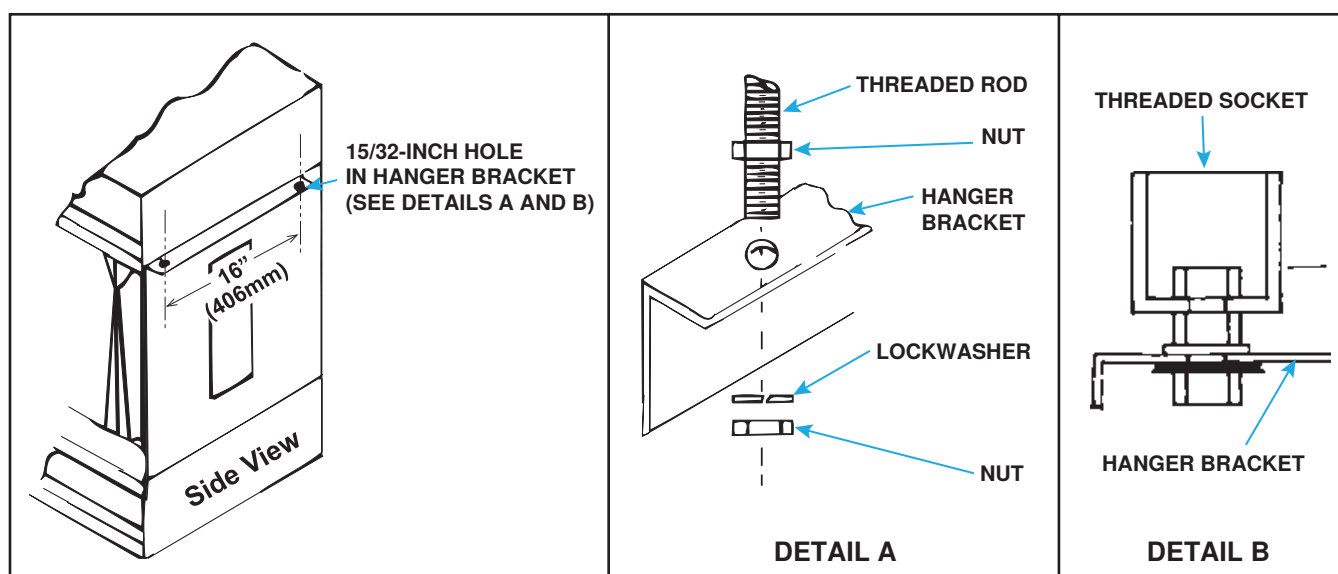

Figure 9. Suspension-Mounting of Single Furnace
- The furnace is provided with four 15/32-inch (12 mm) diameter holes for mounting using four-point suspension as shown in Figure 9.
- The hardware required is shown in Figure 9, DETAIL A and includes four 7/16-16 threaded rods, four split ring lockwashers, and eight 7-16 nuts.
- A hanger adapter kit (option CK3, PN 57959) with four free-turning threaded sockets (PN 9557) for 1-inch pipe (see Figure 9, DETAIL B) is available.